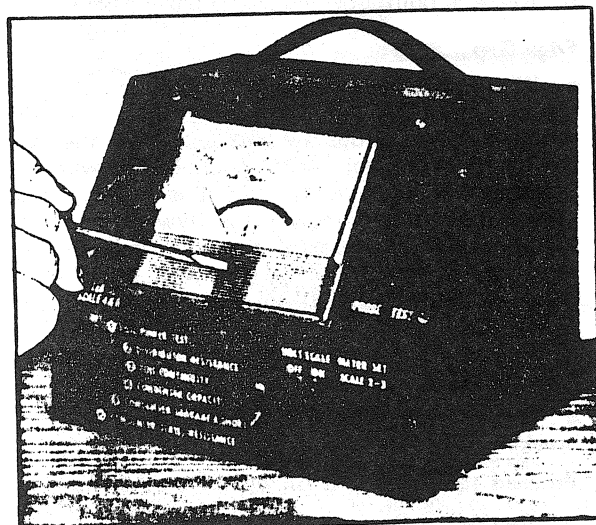

FIGURE 2
- Turn the small adjustment screw on front of meter until pointer lines up with zero (0) on scale #1 of meter, left side. (Fig. 2).